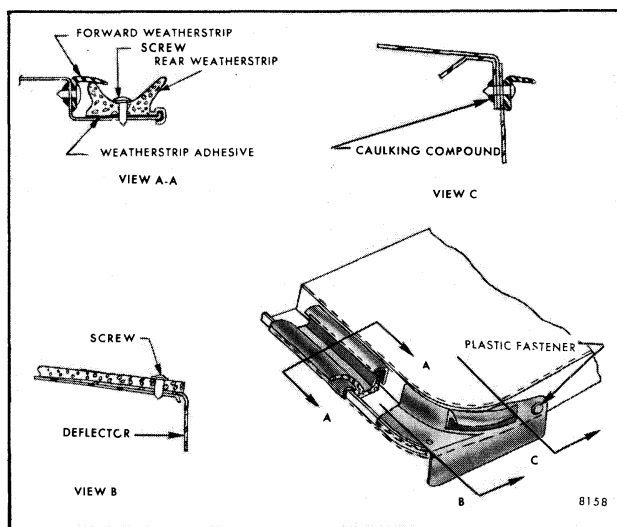

Fig. 8-81-Sun Roof Panel Weatherstrip
Two weatherstrips and deflectors are used at the rear of the sun roof sliding panel (Fig. 8-81). The deflectors are located at each rear corner of the sliding panel retained by black weatherstrip cement at rear and a plastic drive fastener forward. The forward weatherstrip is positioned on the vertical surface of the rear flange by attaching screws, and the other along the rear horizontal retained by cement and two screws positioned 1/4 inch from the outboard edge of the panel and engagement over the panel rear vertical flange and deflector.
6. Weatherstrip No. 1, position weatherstrip to panel and drive attaching screws and seal the screws with caulking compound or similar material as shown in Figure 8-81.